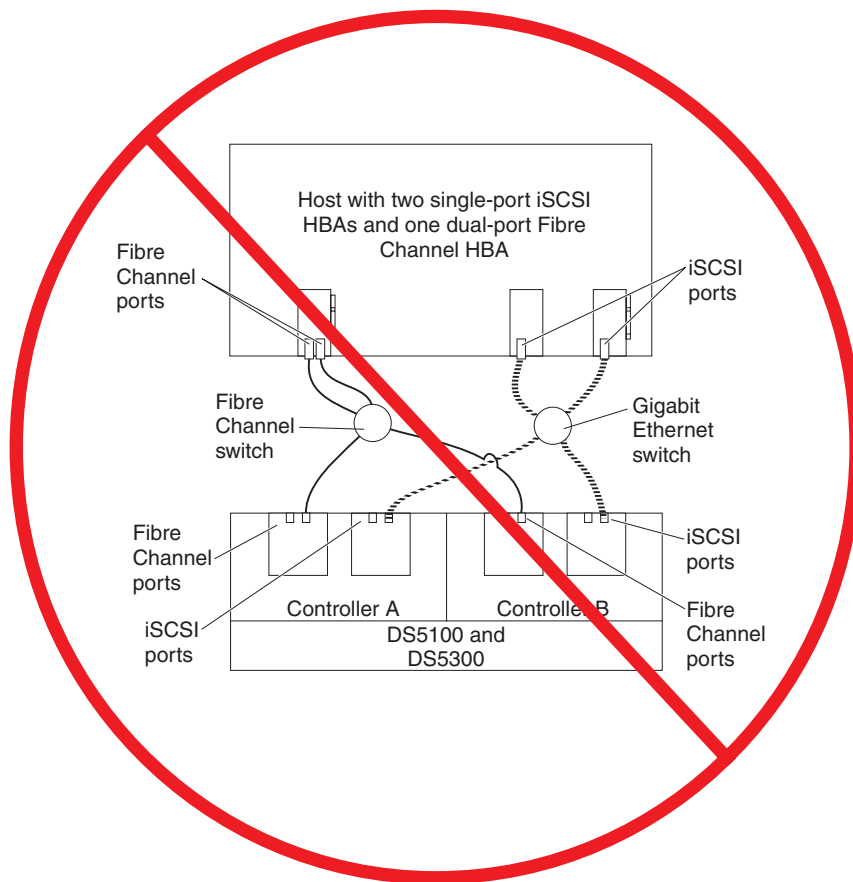

Figure 86. Example of an incorrect configuration: Single-host, iSCSI and Fibre Channel
- Example of an incorrect configuration: Single-host, iSCSI and Fibre Channel, as shown in Figure 86 on page 121
Figure 86 on page 121 shows an incorrect configuration of a single host with both iSCSI and Fibre Channel connections.
Important: Do not cable the storage subsystem and host systems as shown in Figure 86 on page 121. A storage subsystem with the incorrect storage topology might appear to be functional, but incorrect cabling can potentially have unpredictable results.